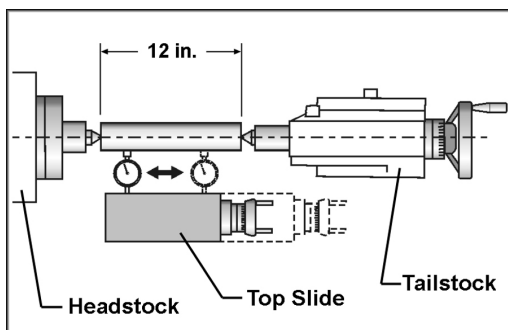

Figure 14-8: Tailstock/Headstock Alignment
1. Fit a 12" ground steel bar between centers of the headstock and tailstock (Figure 14-8).